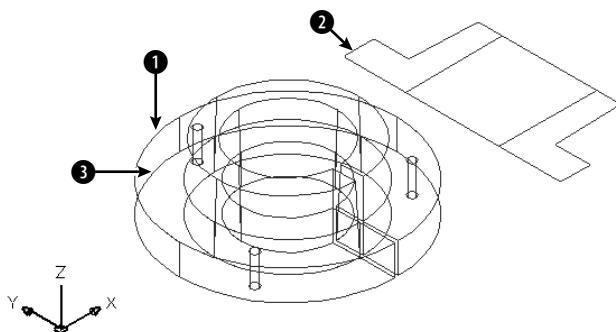

**Figure 24-41:** A bushing in 2D and 3D. The 3D bushing has been exploded but still looks the same. It can now be used to extend lines.
2. Save the file as `ab24-14.dwg` in your AutoCAD Bible folder. You see a bushing, in 2D and 3D, as shown in Figure 24-41. The 3D bushing has been exploded into simple geometry—otherwise, you wouldn't be able to use it to extend the 2D lines. Display the Modeling toolbar and set a quadrant running object snap.
Select objects: *Pick the 3D bushing at ① in Figure 24-41.*